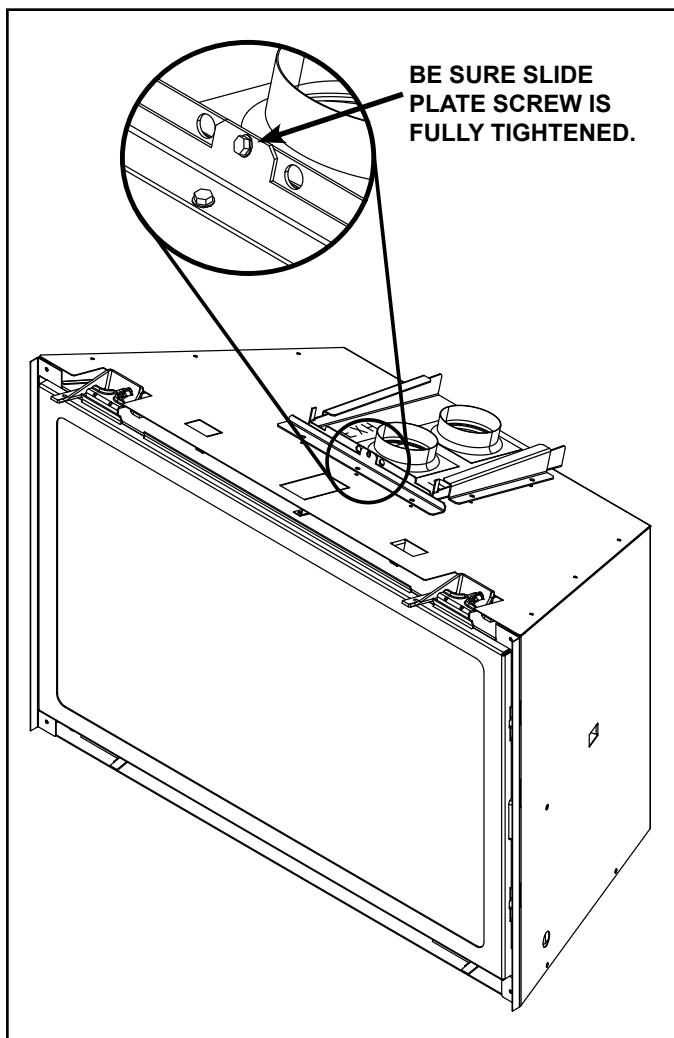

Figure 3.3 Collar slide plate Screw Detail
- Verify collar slide plate screw is attached see Figure 3.3.